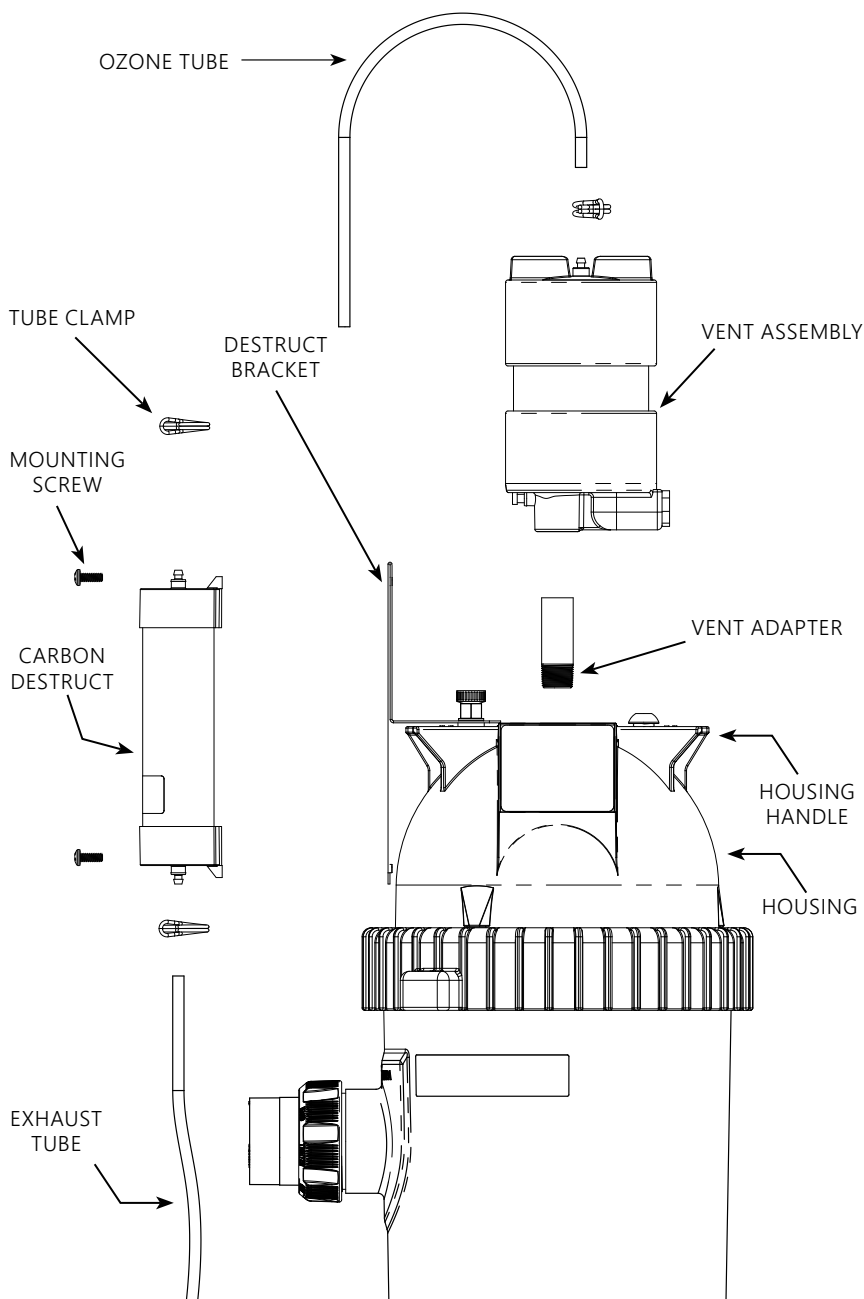

Figure 3: Assembly Components
3. Apply thread sealant to vent adapter threads. Install vent adapter through the hole in the housing handle and into the housing (Figure 3).
4. Use NSF approved primer and cement to attach the vent assembly to the open pipe end of the vent adapter. Orient the vent assembly (Figure 3).
5. Mount the carbon destruct to the destruct bracket with the two mounting screws provided (Figure 3).
6. Connect the ozone tube and exhaust tube using the tube clamps (Figure 3). Tubing clamps should be tightened behind the hose barb feature for proper attachment.